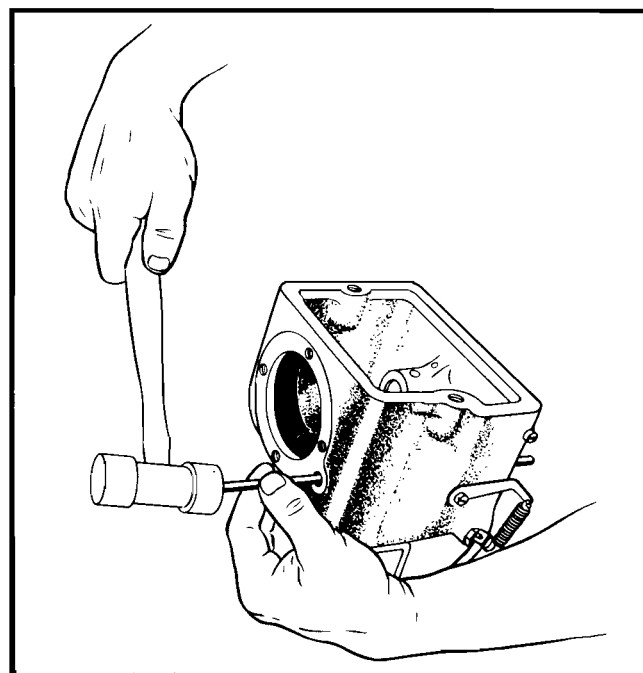

Figure No. 42—Removing Camshaft Axle
- a. When removing the camshaft axle always drive it out from the bearing plate side of the block where additional clearance has been allowed. (See Figure No. 42.)